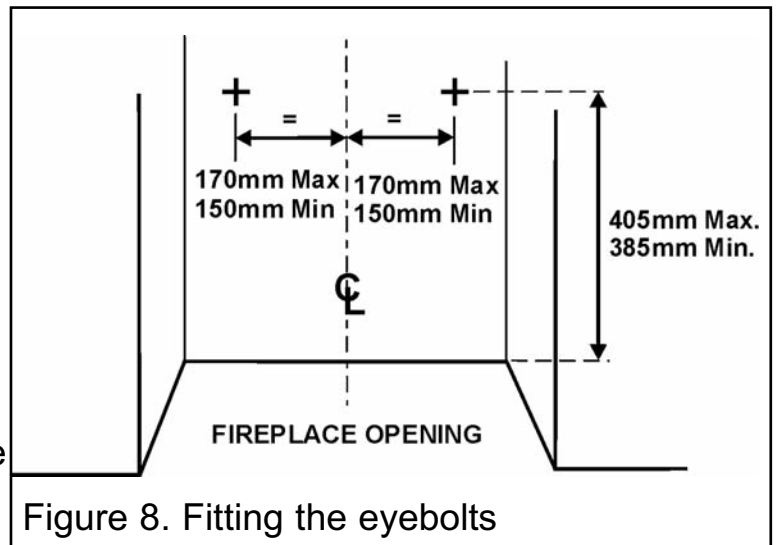

Figure 8. Fitting the eyebolts
2. Drill two holes in the rear wall of the fireplace for the eyebolt plugs. The holes should be drilled within the range of positions shown in figure 8 using a suitably sized masonry drill. The holes should be equidistant each side of the centre line of the fireplace to ensure that the appliance finishes centrally in the opening when tension is applied to the cables.